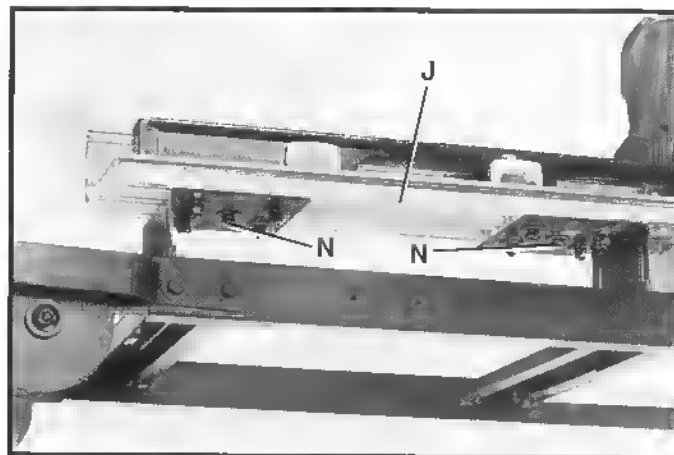

Fig. 27
7. Position the table extension (J) Fig. 27, to the desired position left or right and tighten the two screws (N).